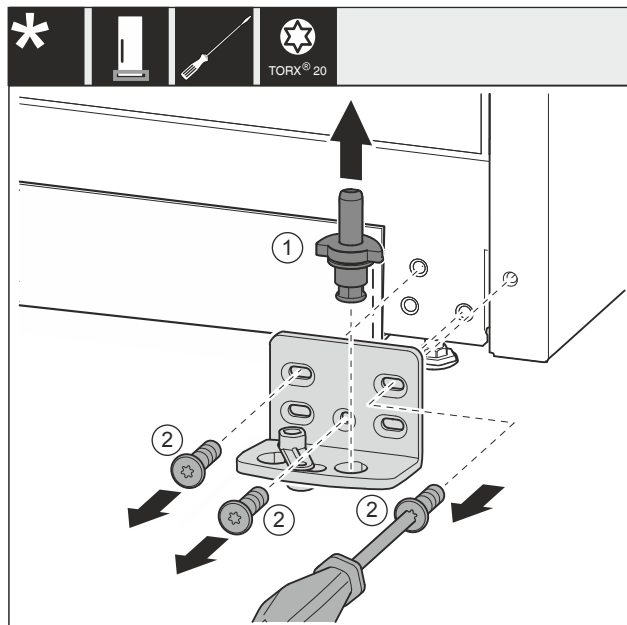

Fig. 21
- Pull the bearing bolt Fig. 21 (1) out upwards completely.
- Use screwdriver to unscrew the screws Fig. 21 (2) and remove the swap bearing block.